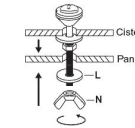

Fig. 4
4. Slide donut washer (E) over fixing nut (D) and slide cistern onto pan backplate by locating screws through the pan.
5. Secure the cistern to the pan using washer (L) and wingnut (N). (see Fig. 4).